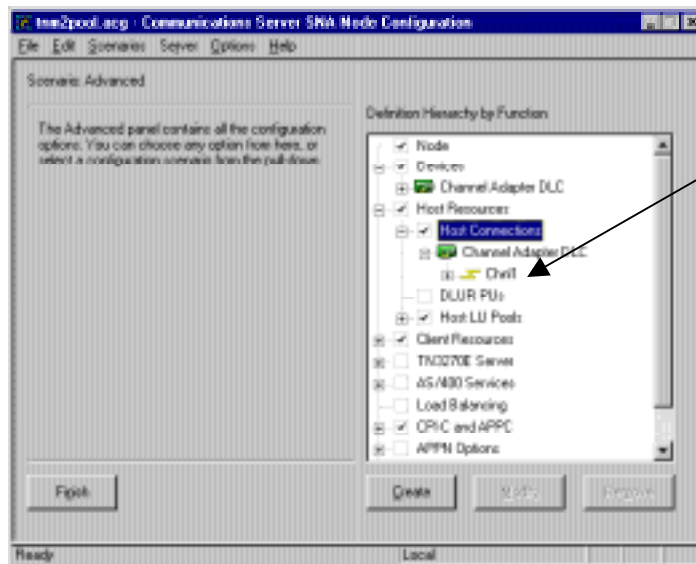

Figure 15-12. Host Connection
3. Verify that a host connection has been defined for the adapter (Figure 15-12).